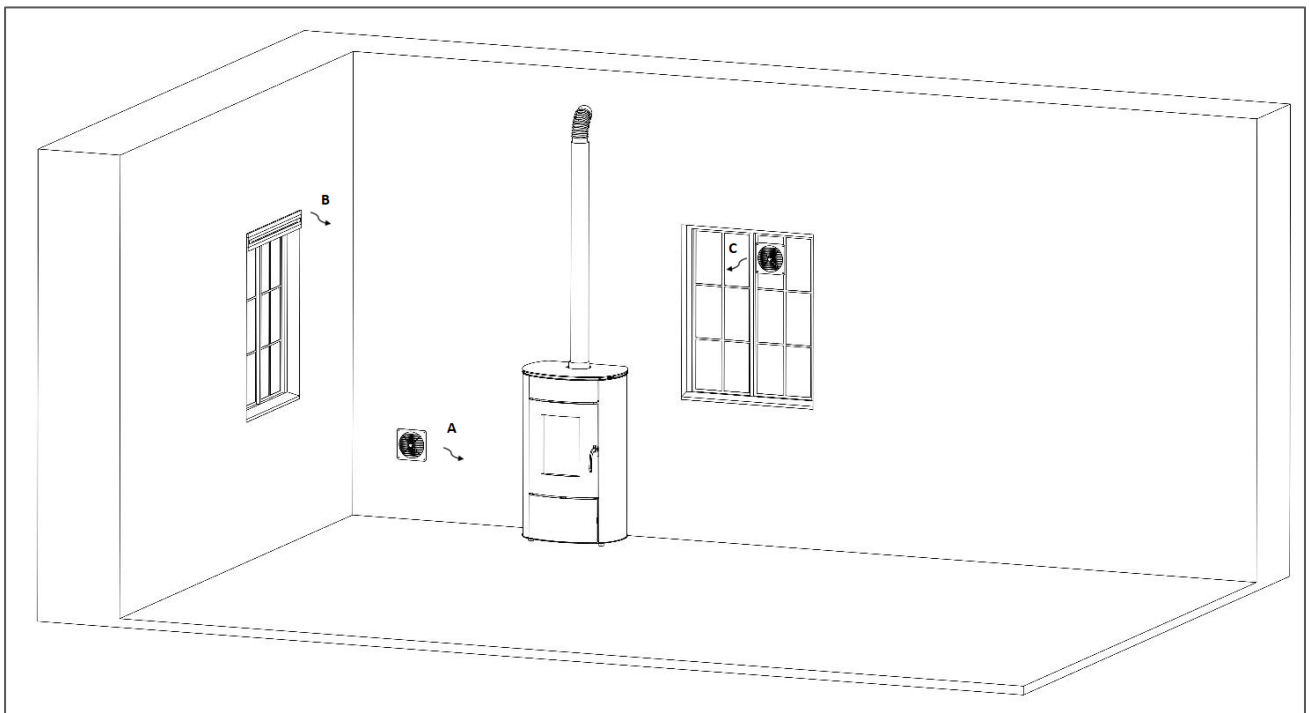

Figure 2
2. For the above cases, the room where the stove is installed must be ventilated continually. See figure 2 (B and C).
3. It is recommended that the combustion air opening for the stove be located in the lower part of the room next to the stove. See figure 2 (A)